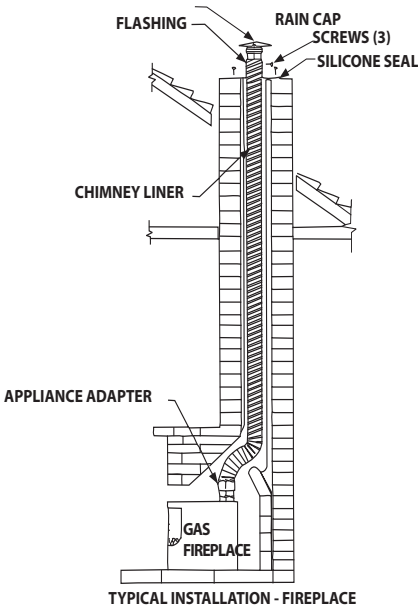

Fig. 3
8. For models **GAFK & GIAFK** attach liner directly to appliance using appliance connector included in kit. (See figures 3 & 4)